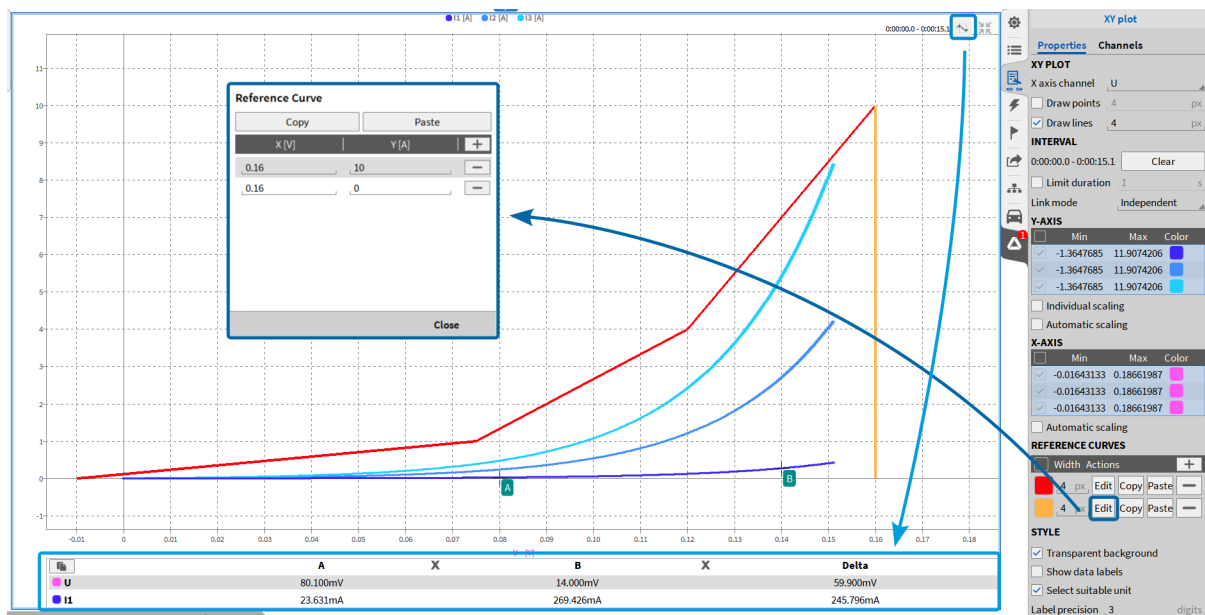

Fig. 8.42: XY plot – highlighted reference curve settings and A/B cursors
- Click Edit to define the reference curve by entering X and Y coordinates. OXYGEN will draw linear segments between the defined points (see Fig. 8.42).